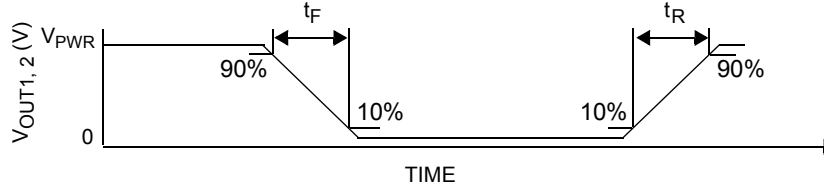

Figure 6. Output switching time
- Rise Time is from the 10% to the 90% level and Fall Time is from the 90% to the 10% level of the output signal with $V_{\text{PWR}} = 24\text{ V}$, $R_{\text{LOAD}} = 3.0\text{ ohm}$. See Figure 6, page 10.